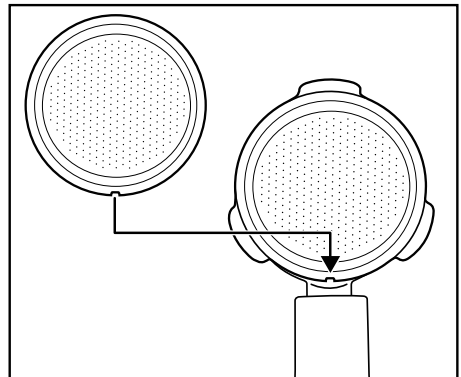

Figure 2
- Make sure that the small indentation on the large **19** or small espresso sieve **20** is located above the indentation on the sieve holder **18** when inserted (Figure 2).